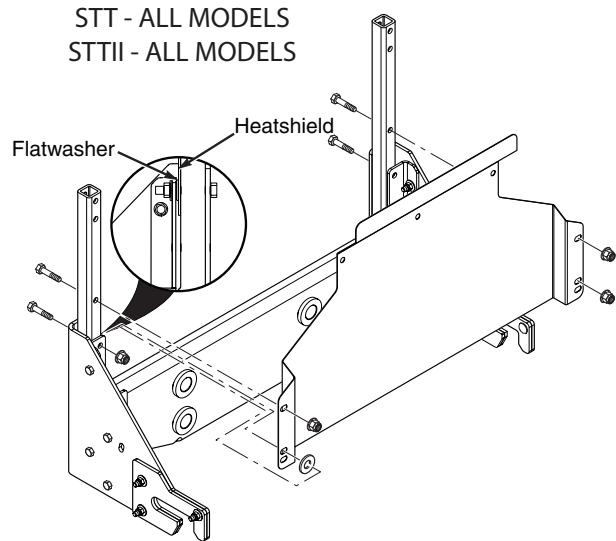

**Figure 2-6. Belt Routing**
15. Install the belt to the spindle pulley. When replacing the belt. See Figure 2-6.